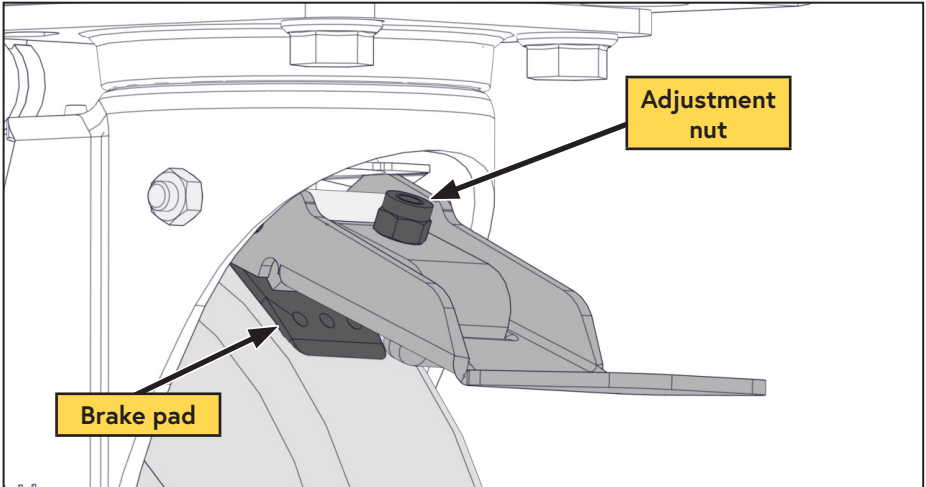

Figure 8 — Brake adjustment
- Inspect the wheel brake and adjust as necessary by rotating the brake adjustment nut until the brake pad holds the unit in place (Figure 8).